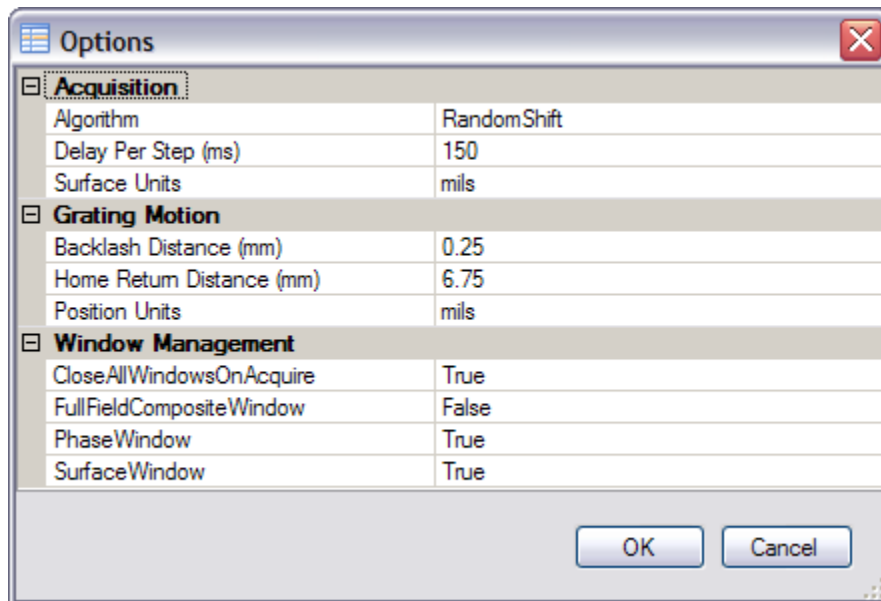

Figure 3.2 MP10 Options Dialog
In the **Options** window (**Figure 3.2**), there is a new parameter, **Home Return Distance**, for homing the projection grating stage when the program starts. This parameter defines the homing position of the grating stage along its 12 mm travel distance. It is set to an optimal value by Akrometrix but can be adjusted by the user.
- In this window, the current position of the grating stage is displayed in millimeters. Each time the program starts, this number will be initialized as the value set for **Home Return Distance** item in the Options window (**Figure 3.2**).